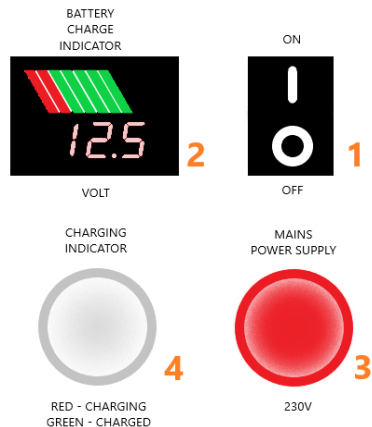

Fig. 5 Power system - battery mode
1. Turn on the power system using the **ON / OFF** switch located on the housing (**Fig. 5 pos. 1**);
3. **Fig. 5 pos. 3** - mains supply light is off;
4. **Fig. 5 pos. 4** - battery charging light is off;
5. **Fig. 5 pos. 2** - voltmeter shows the battery charge level.
If during stunning in battery mode the battery charge level drops below green (**Fig. 5 pos. 2**), it means that the battery is discharged to more than 50%. Then you should stop stunning and connect the device to the mains in order to charge the battery. During the stunning process, the battery voltage will drop.